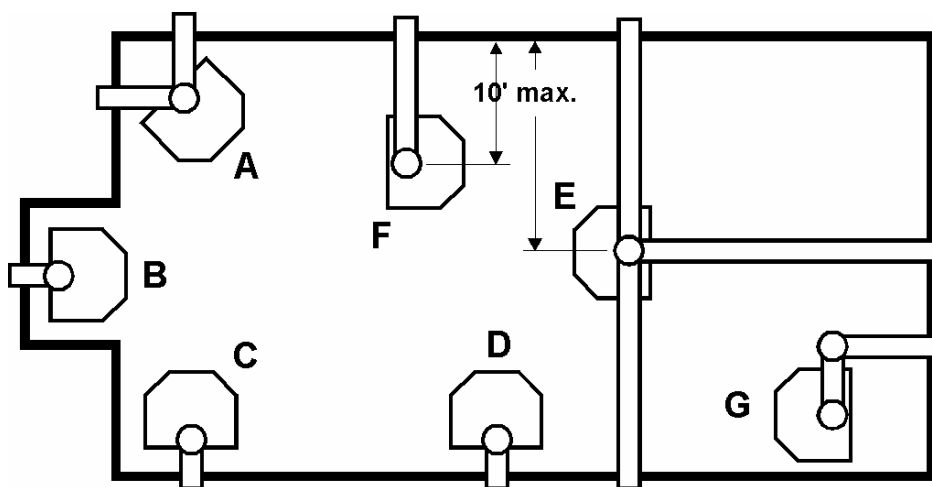

Figure: 3 - Various Approved Installation Configurations
- The **KOZI** Direct Vent Freestanding Gas Stove has been approved for the installations displayed in the following diagram, Fig. 3. This unit has also been approved for installations employing millivolt thermostats for heat regulation. Installations in Mobile Homes have been approved as long as the appliance is securely bolted to the frame.
For example, if the unit is situated as indicated in Fig. 3 but the connector is too close, move the unit until the correct clearance is achieved.
This appliance may only be installed with the clearances provided as shown in Figs. 3 & 4. DO NOT combine clearances from one type of installation with another to achieve closer clearances.
Note: The location of the termination cap must satisfy the requirements set forth by the Exterior Vent Terminal Locations found in Fig. 3, on the next page.